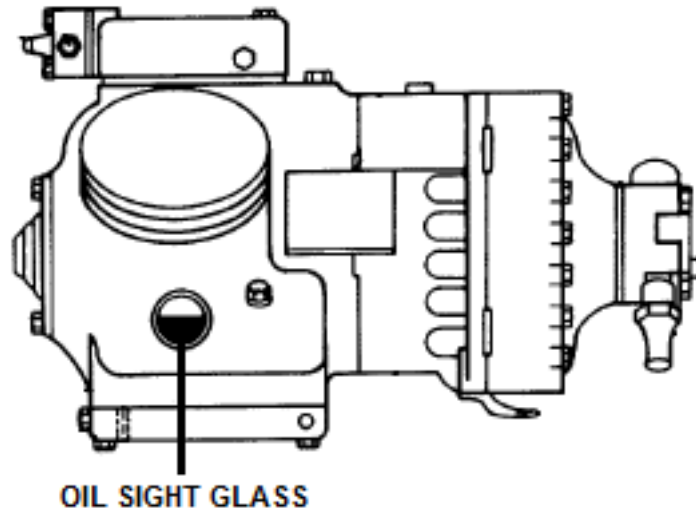

Figure 551-88L-2059_06
h. Check suction and discharge pressures, (refer to Figure 551-88L-2059_07).
(1) Suction (low) and discharge (high) pressures should always be checked while the compressor has been running for at least 30 minutes. This period of time is required for stable operation.
(2) During the check -all thermostats should be set as cold as possible and all mode selector switches should be in the 'COOL' position.
(3) A manifold gauge will be required to check pressures. A thorough understanding of this tool and the proper connection procedure is necessary for proper testing as well as the technician's safety.
(4) Operating pressures for the suction (low) and discharge (high) sides of the system should be within the normal operating range specified in the systems technical manual.
(5) The water regulating valve may be adjusted to maintain the correct system operating discharge pressure as per the systems technical manual.